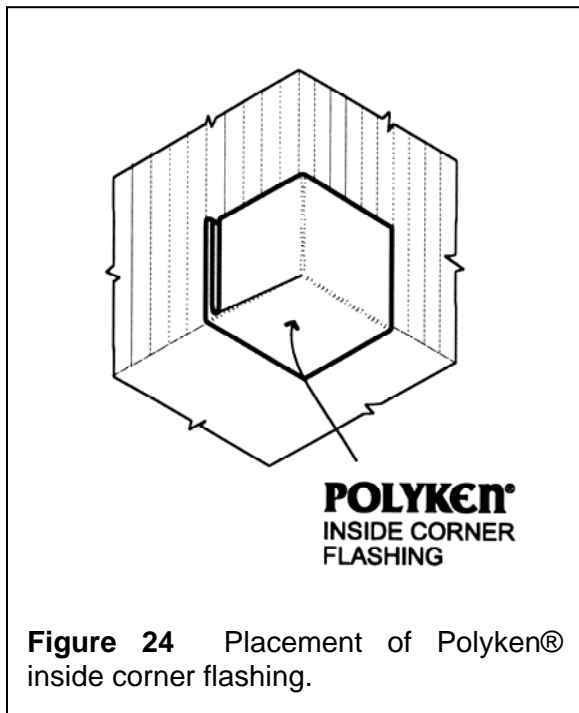

Figure 24 Placement of Polyken® inside corner flashing.
Step 11. When placement has been checked, the remaining release liner can be removed in order to adhere the inside corner flashing firmly in place. See Figure 24.